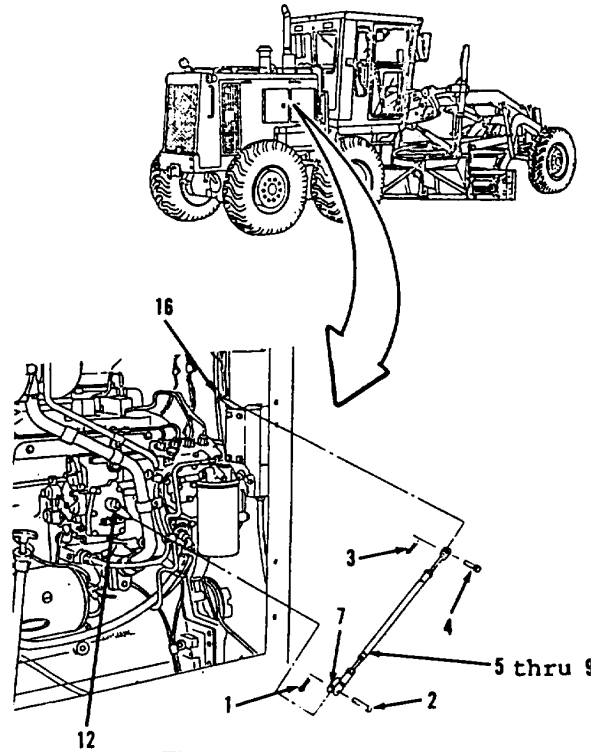
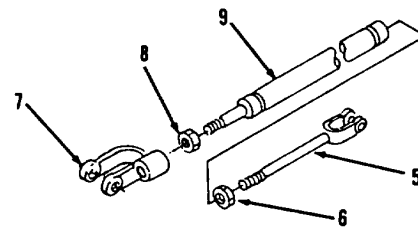
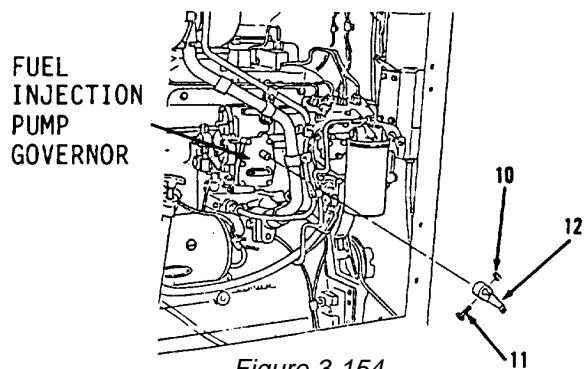

Figure 3-152.
Figure 3-153.
Figure 3-154.
1. Remove and discard cotter pin (1, Figure 3-152) from fuel injection pump governor on right side of engine.
2. Remove pin (2).
3. Separate rod end (7) and lever (12).
4. Remove and discard cotter pin (3) from inner, right side of dash panel in engine compartment.
5. Remove pin (4).
6. Separate rod (5) and lever (16).
7. Remove items 5 thru 9 as an assembly from vehicle.
8. Loosen nut (6, Figure 3-153).
9. Remove rod (5) and nut (6) from link (9).
10. Loosen nut (8).
11. Remove rod end (7), nut (8) and link (9).
12. Using scribe, matchmark lever (12) and fuel injection pump governor shaft to aid in aligning lever (12, Figure 3-154) on fuel injection pump governor shaft in installation to fuel injection pump governor.
13. Remove nut (10) and bolt (11).
14. Using screwdriver, remove lever (12) from fuel injection pump governor shaft.